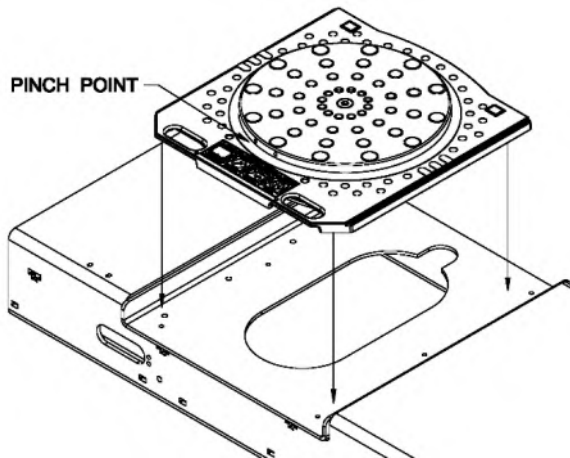

Fig 31- Turn plate Installation
- 68) Place each front turn plate assembly, one by one, on the front alignment pan on runway. Moving handles of the turn plates should be oriented to the outside of lift, **Fig 31**.